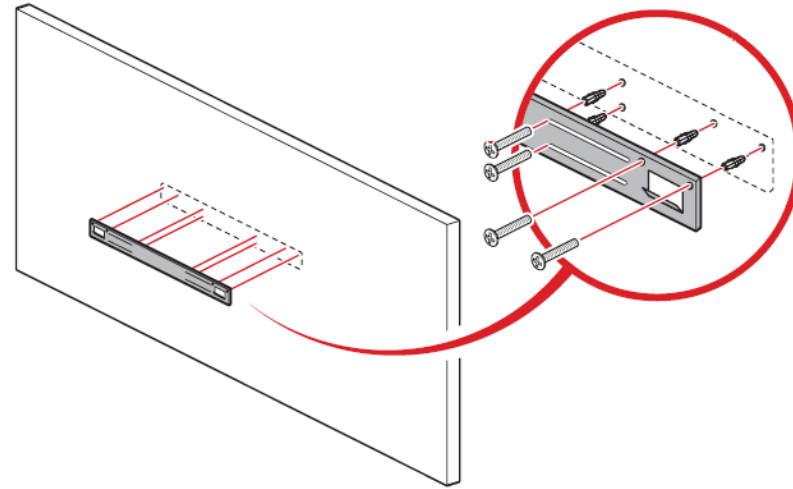
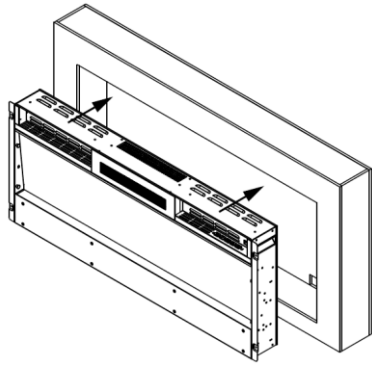

Fig.5
Fig.1
Installation (see Fig1 ~ Fig 5)
- A distance of 600mm from the bottom of the heater to the floor is recommended for optimum viewing of the fuel bed; see Fig.1 below for recommended fixing dimensions.
- Insert eight 4*30mm wall anchors into holes, then attach the mounting bracket to the wall with eight 4*30 screws.Fig.5
Please see Fig.1
- Fix the tempered glass with 2pcs of 4*8mm screws provided.(Fig.5)